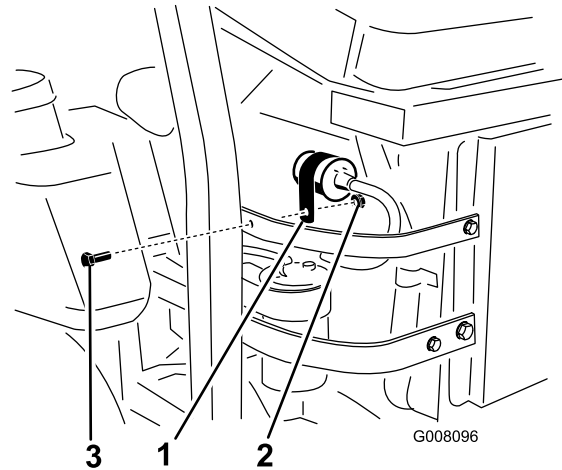

Figure 8
2. Install the small R-clamp around the fuel pump and install it to the engine strap with a bolt (1/4 x 1-1/4 inches) and nut (1/4 inch) (Figure 8).